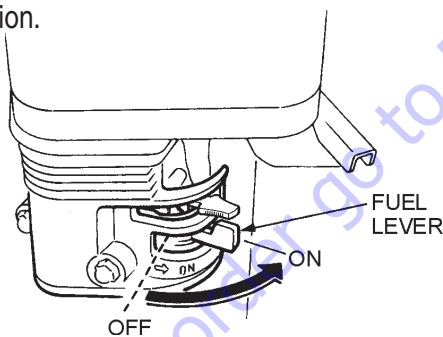

Figure 6. Engine Fuel Valve Lever
1. Place the engine **fuel valve lever** (Figure 6) to the **ON** position.
7. If the engine has started, slowly return the choke lever (Figure 6) to the **OPEN** position. If the engine has not started repeat steps 1 through 6.
9. To begin use, move the throttle lever (Figure 6) toward the **FAST** position.